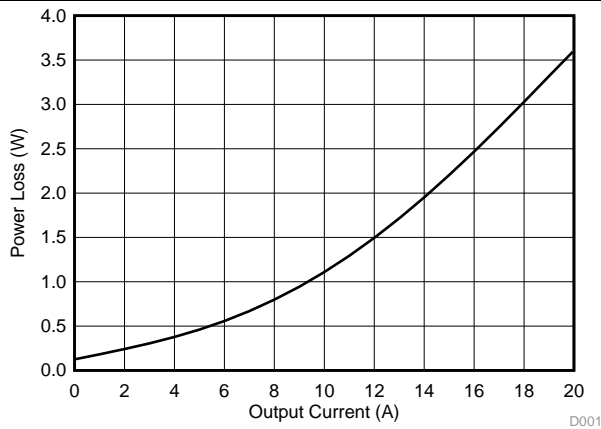

Figure 1. Power Loss vs Output Current
MOSFET centric parameters such as $R_{DS(ON)}$ and Q_{gd} are needed to estimate the loss generated by the devices. In an effort to simplify the design process for engineers, Texas Instruments has provided measured power loss performance curves. 图 1 plots the power loss of the CSD86336Q3D as a function of load current. This curve is measured by configuring and running the CSD86336Q3D as it would be in the final application (see 图 30). The measured power loss is the CSD86336Q3D loss and consists of both input conversion loss and gate drive loss. 式 1 is used to generate the power loss curve.
The power loss curve in 图 1 is measured at the maximum recommended junction temperatures of 125°C under isothermal test conditions.
- Power loss at 18 A = 3.03 W (FIG 1)